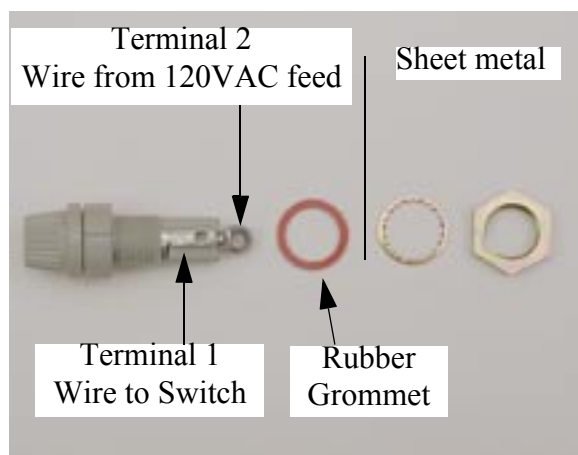

Figure 4 - New 30 Amp Rated Fuse Holder
- 18.) Install new fuse holder, making sure to position terminal 1 connector toward the open side for ease of soldering wires on. Follow Figure 4 for installing fuseholder parts.
19.) Solder new wire (supplied with kit) to terminal 1 of new fuse holder (see Figure 4 below).